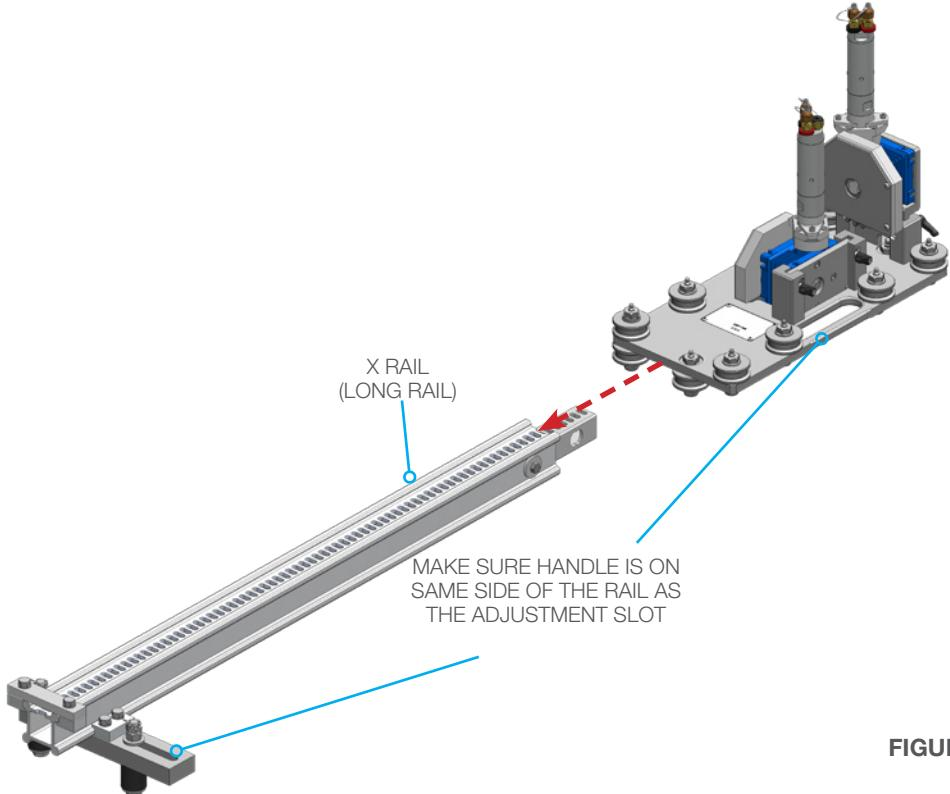

FIGURE 11
2. Slide the Carriage onto the Rail, making sure that the Carriage Handle is aligned with the Adjustment Slot on the Rail Clamp. (**Figure 11**)